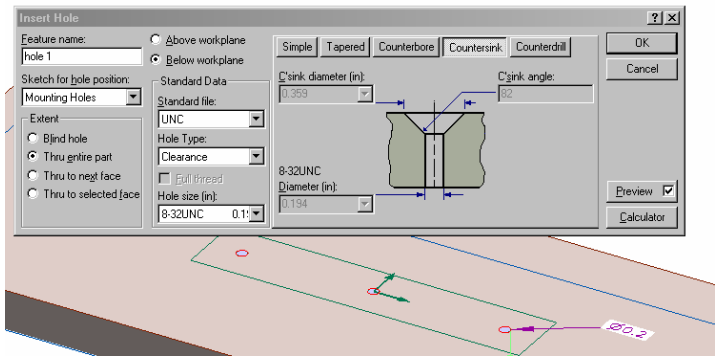

Figure 7. Inserting holes settings:
12. Select the three holes (they will turn red) then select Insert Holes (under Features). Set the dialog boxes according to figure 7.